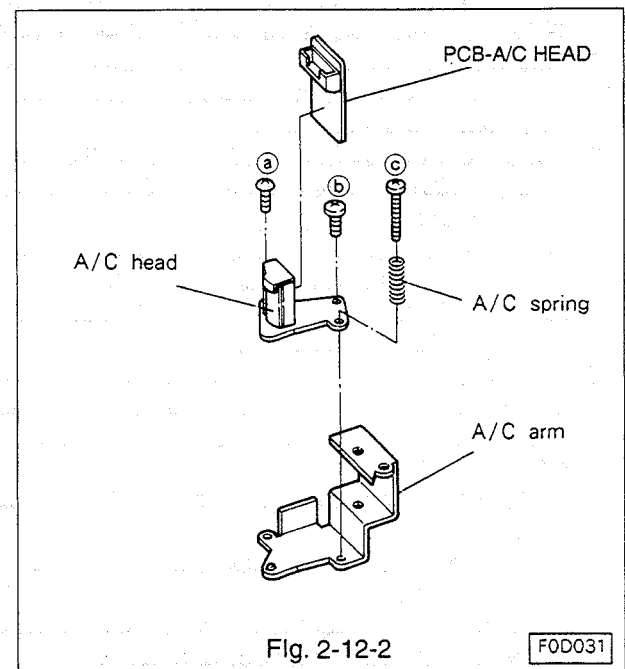

Fig. 2-12-2
- Remove three A/C head fastening screws (a) ~ (c) and the A/C spring shown in Fig. 2-12-2, and remove the A/C head from the A/C arm.
- Unsolder the PCB-A/C HEAD from the A/C head.(Refer to Fig. 2-12-2.)
(Refer to Fig. 2-12-2.)